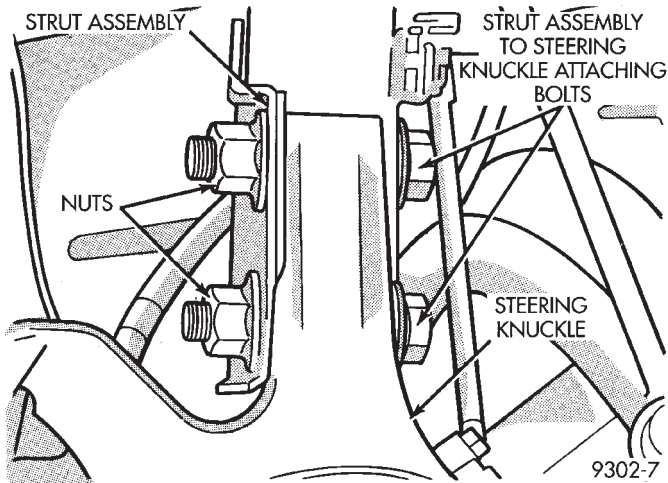

Fig. 13 Strut Assembly To Steering Knuckle Attaching Bolts
(8) Remove the strut assembly to steering knuckle attaching bolts (Fig. 13).
(3) Install the strut assembly to steering knuckle attaching bolts (Fig. 13). Install nuts on attaching bolts. Tighten the strut assembly to steering knuckle attaching bolt nuts to a torque of 169 N·m (125 ft. lbs.).